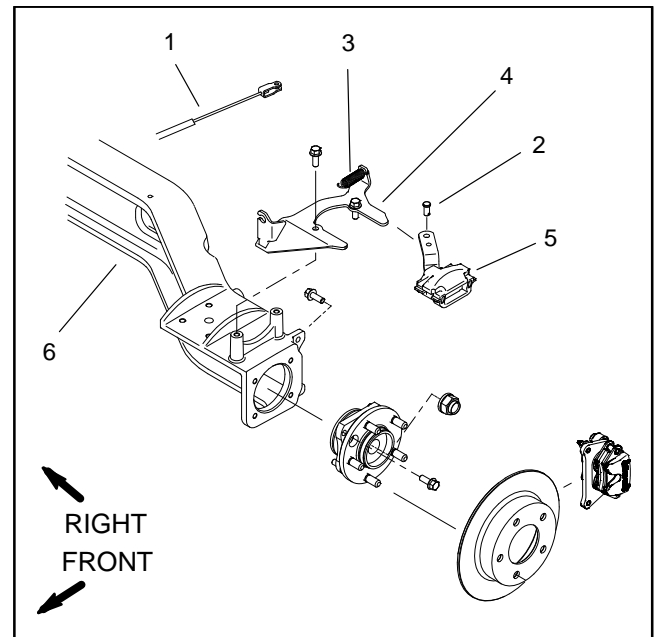

Figure 13
5. Disconnect brake cable from parking brake caliper on rear axle (Fig. 13):
2. Connect brake cable to parking brake caliper on rear axle (Fig. 13).